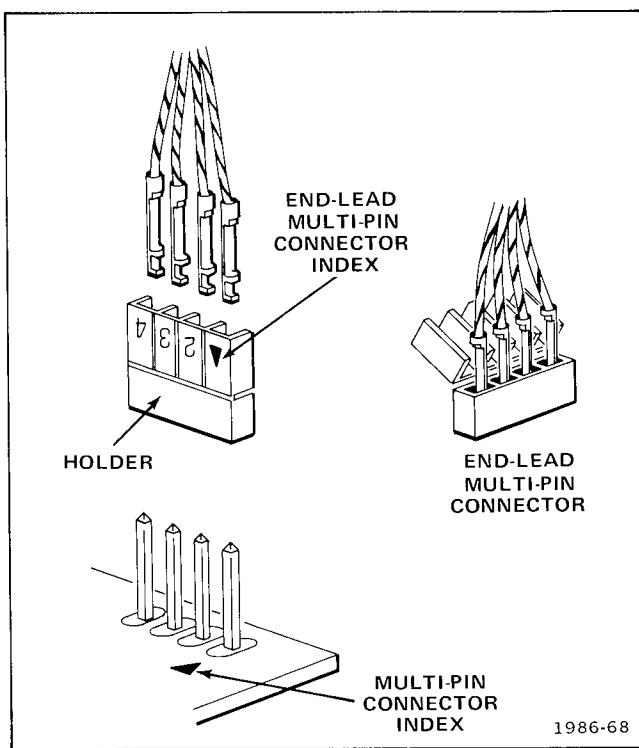

Fig. 5-5. Orientation and disassembly of multipin connectors.
**Multipin Connectors.** The pin connectors used to connect the wires to the interconnecting pins are clamped to the end of the wires. Refer to Fig. 5-5. To replace damaged multipin connectors, remove the damaged pin from the holder. To do this, insert a scribe between the connector and the holder and pry the connector from the holder. Clamp the replacement pin to the wire. Reinstall the connector in the holder.